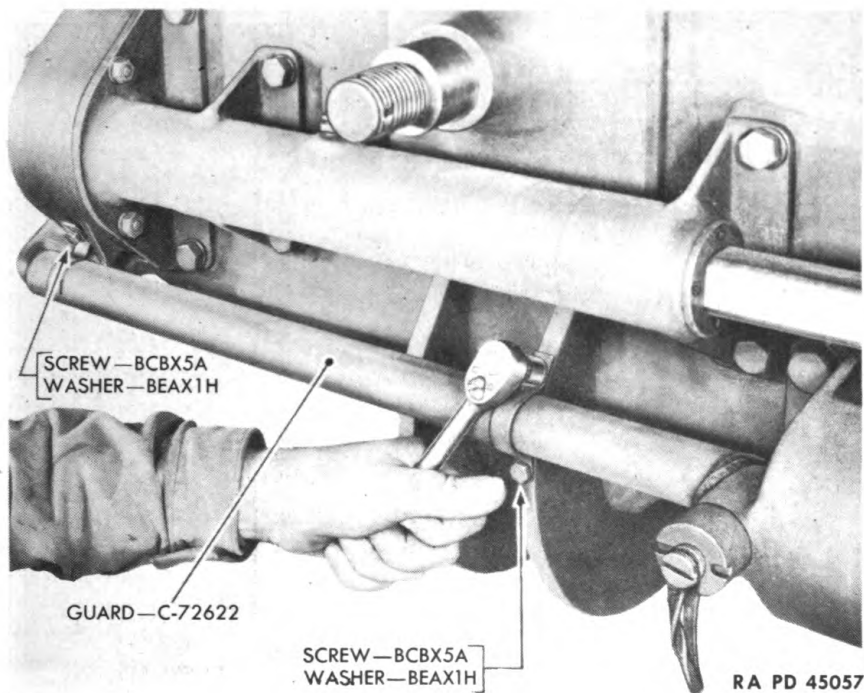

Figure 99—Removing Replenisher Tube Guard
(2) Insert oil release A1001 in valve retainer and drain off replenisher oil into a container. Remove release, and replace plug.
(3) Remove three screws BCBX5A and washers BEAX1H from guard C72622. Remove guard (fig. 99).